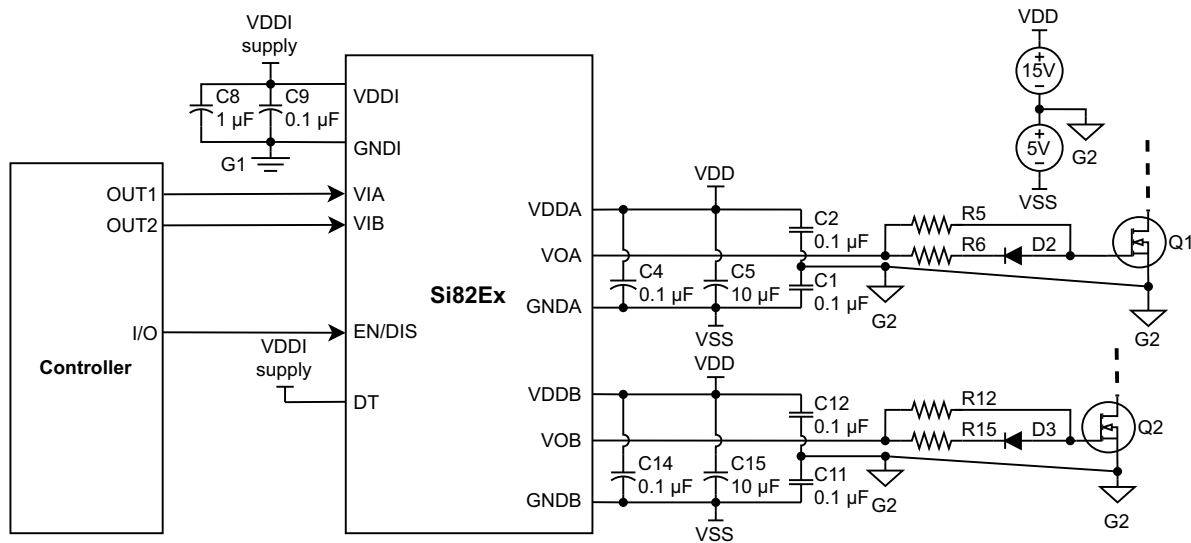

Figure 19. Dual Low-Side Driver Application Circuit
Figure 19, “Dual Low-Side Driver Application Circuit,” below depicts the circuit for driving dual low-side FETs. When the dead time pin (DT) is tied to the logic input supply (VDDI), the Si82Ex device operates as a dual gate driver without overlap protection or dead time insertion. In this dual driver mode, the Si82Ex device can be used for high-side/low-side, dual high-side, dual low-side, or any circuit topology. However, the controller is responsible for providing overlap protection and dead time insertion. In the dual low-side circuit topology depicted below, the +15 V and –5 V sources are shared by gate drivers A and B to generate bipolar V_{GS} outputs. For a dual high-side application, Driver A and B cannot share the same power supply and will require the individual isolated power supplies, even if the V_{GS} output is unipolar.